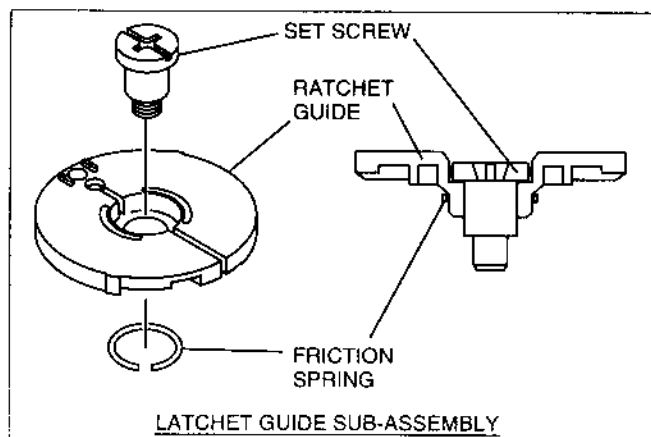

Fig. 9-6
- 2 : Holding the latchet, set the latchet-guide sub-assembly. (Fig. 9-6)